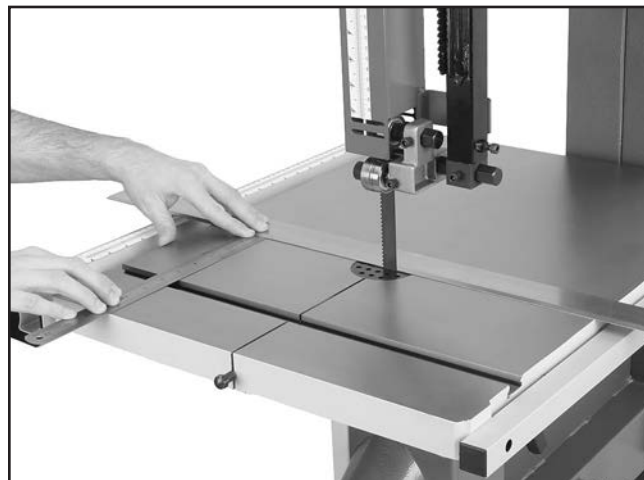

Figure 29. Measuring for miter slot to be parallel with blade.
5. Use a fine ruler to gauge the distance between the straightedge and the miter slot. The distance you measure should be the same at both the front and the back of the table (see **Figure 29**).